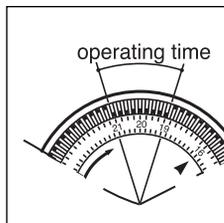

fig.11
- 1) Set the operating times by pushing in the notches on the dial corresponding to the period required (each notch represents 15 mins. fig.11)